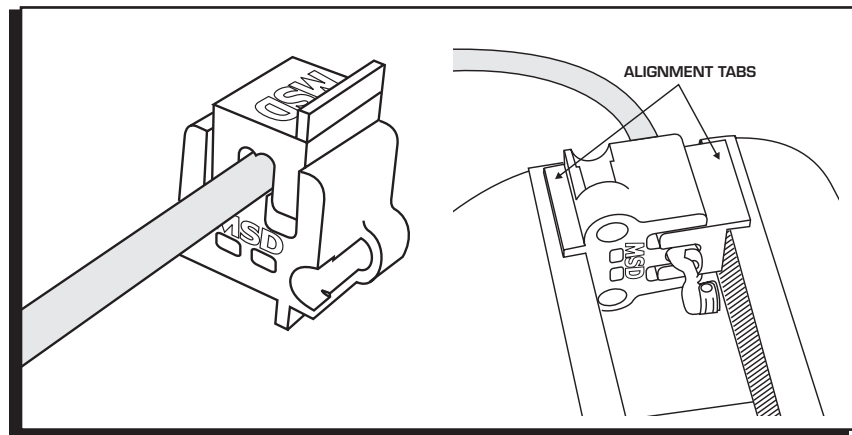

Figure 9 Crimping the Terminal.
4. Slide the other part of the Mini-Stripper-Crimper over the wire terminal and lightly press them together (Figure 9).
alignment tabs are on the outside edge of the vise jaws (Figure 9).